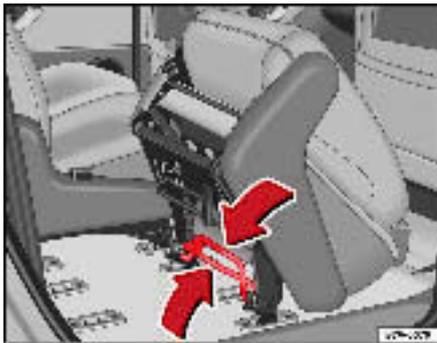

Fig. 92 Bar for removing and installing the individual seat
- Push the two bars ⇒ fig. 92 under the seat together in the direction of the arrow and lift the seat out of the floor anchorings.